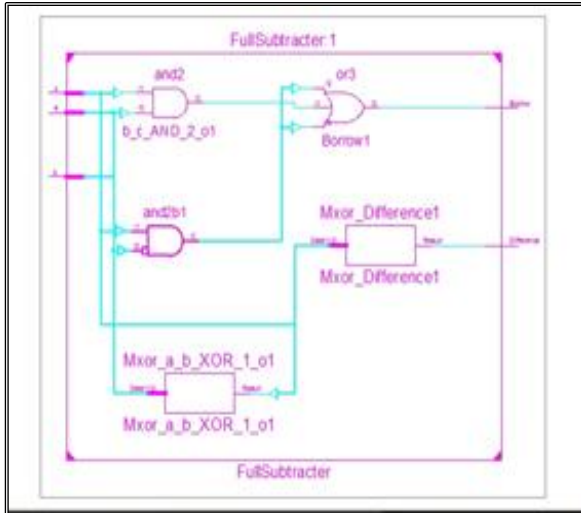
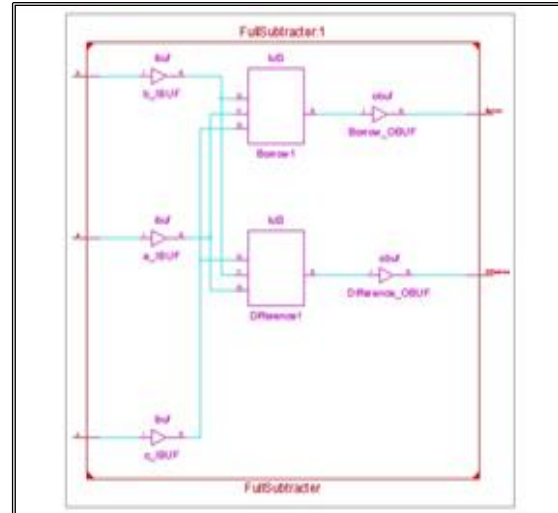

Fig 4.16: RTL View
Fig 4.17: Technology View
19. Synthesize tool can generate two forms of schematic representation, in the form of **RTL View** (Fig 4.16) and **Technology View** (Fig 4.17) for the "Fulladder.v". Double click on the RTL schematic and Technology schematic for viewing the respective schematics.